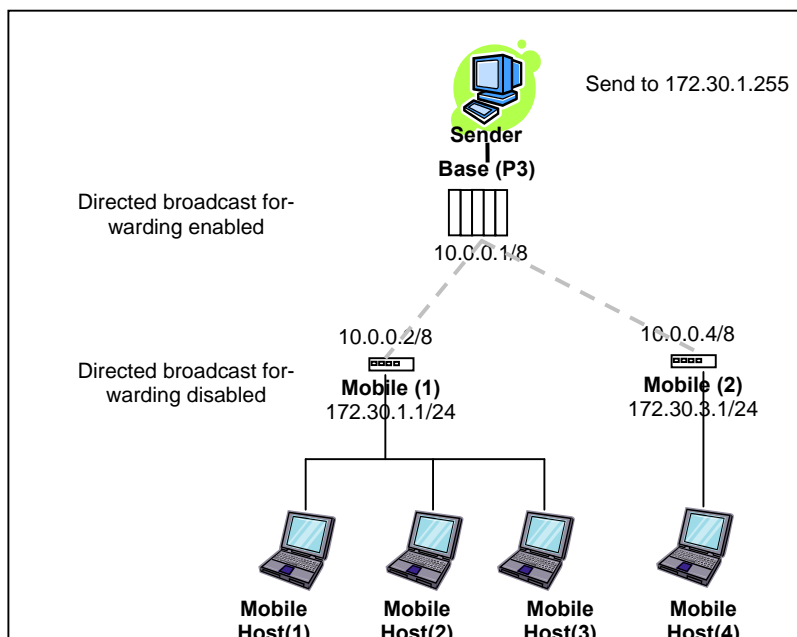

Figure 49 - Example of Directed broadcast forwarding disabled
In this example (Figure 49), directed broadcast forwarding is enabled on the **Base** unit and disabled on the **Mobile (1)** unit. If **Sender** sends a packet to destination address 172.30.1.255, the packet would be discarded by **Mobile (1)**, it would not reach **Mobile Host (1)**, **Mobile Host (2)** and **Mobile Host (3)**.